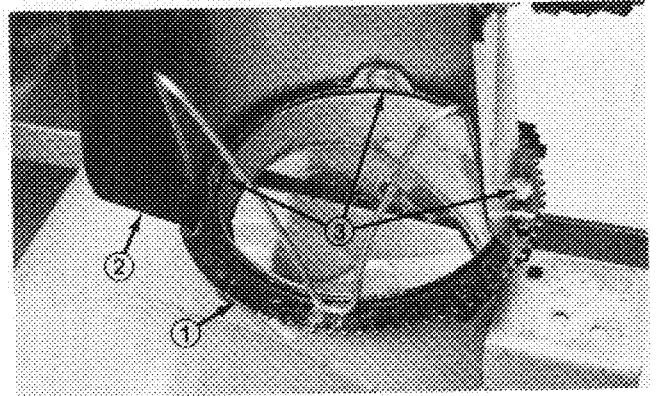

Figure 6
1. Rotate retaining ring so teeth and mounting tabs are in correct position (Fig. 6).
2. Set discharge chute on retaining ring (Fig. 6). Secure back of chute to center tab with carriage bolt, flat washer and locknut (Fig. 6); but do not tighten locknut.
3. Secure chute to other tabs with two carriage bolts, flat washers and locknuts (Fig. 6).